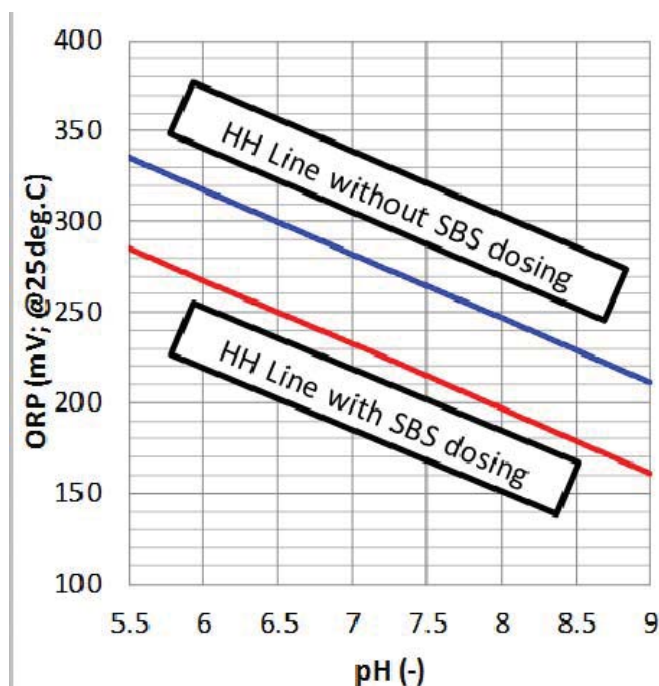

Figure 230-1: HH lines for controlling ORP value in feed water
*) The ORP meter reading should always be less than the value of the line shown in the figure 230-1.